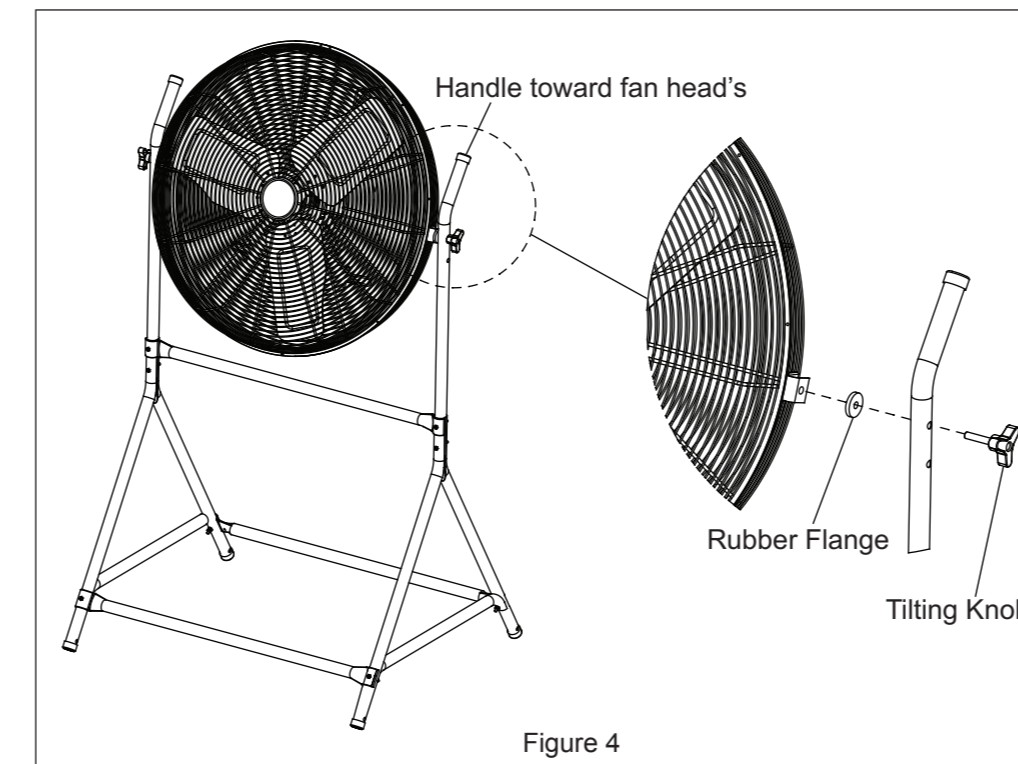

Figure 4
6. Place rubber flanges between fan head and mounting frame. Secure fan head to assemble with tilting knobs. (See figure 4)